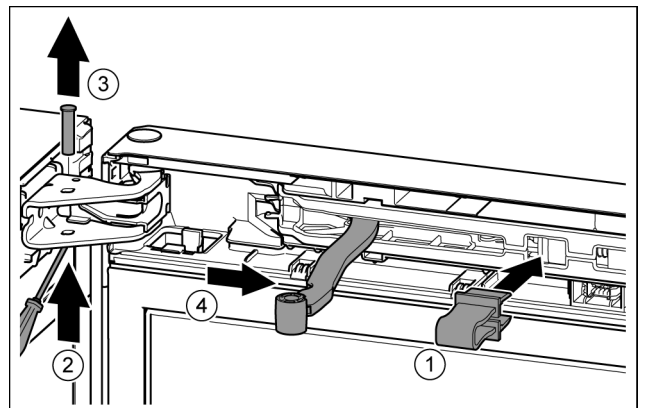

Fig. 11
- ▶ Engage the locking device in the opening. *Fig. 11 (1)*
- ▶ Unscrew the bolt with a screwdriver. *Fig. 11 (2)*
- ▶ Remove the bolt in an upward direction. *Fig. 11 (3)*
- ▶ Turn the hinge in the direction of the door. *Fig. 11 (4)*